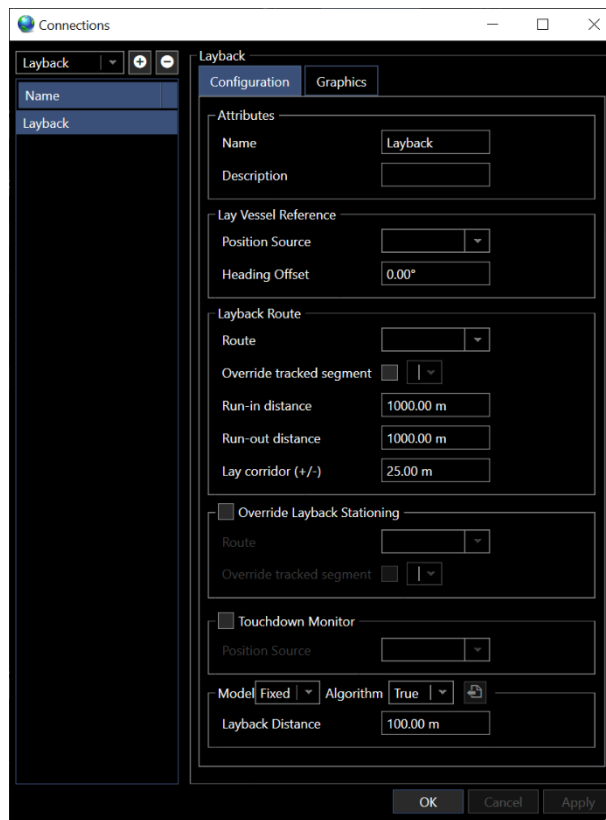

FIGURE 15-34 CONNECTIONS - CONFIGURE LAYBACK DIALOG
- a. **Configuration Tab** allows for editing the various route characteristics for the layback connection (see Figure 15-34)